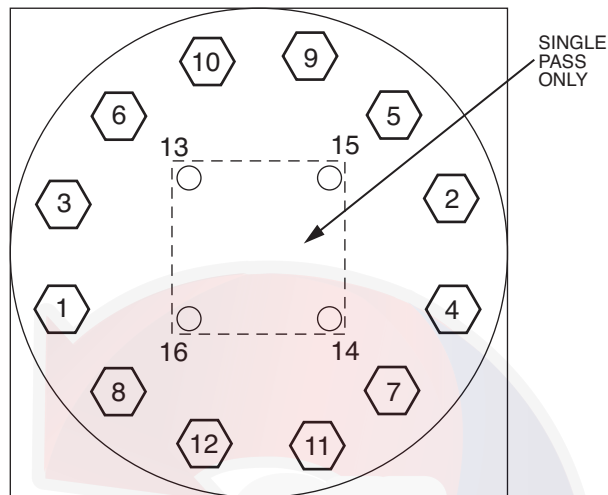

Fig. 53 — Flooded Cooler Unit Head Recommended Bolt Torque Sequence
2. Bolt tightening sequence is outlined in Fig. 53. Follow the numbering or lettering sequence so that pressure is evenly applied to O-ring.